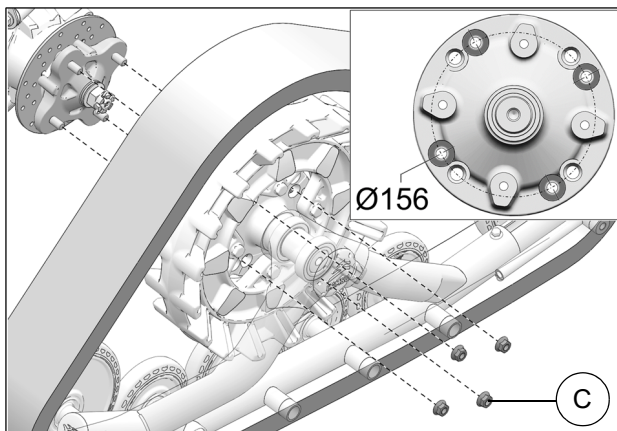

Fig. 10
9. Secure undercarriage to rear hub using the provided 3/8-24 lug nuts (C). Use bolt circle $\text{Ø}156$ mm. See Fig. 10